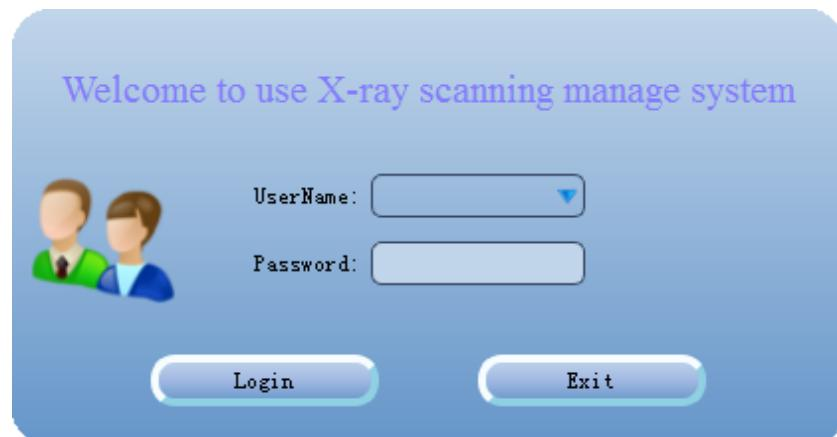

Figure 6.1 Login Interface
- 2) Operation procedure: In baggage scanning status or train status, press stop firstly and then press  . Then, the system will pop up the interface of main menu automatically. You can not enter any submenu in case of no login, so please log in firstly: Input your user name and password in “Login” and click “login” (as shown in figure 6.1).
Click the menu of Login to enter the interface of login (figure 6.1). Input superuser name: admin (default) and password: 12345 (default). All menu functions are available only after the login is clicked.